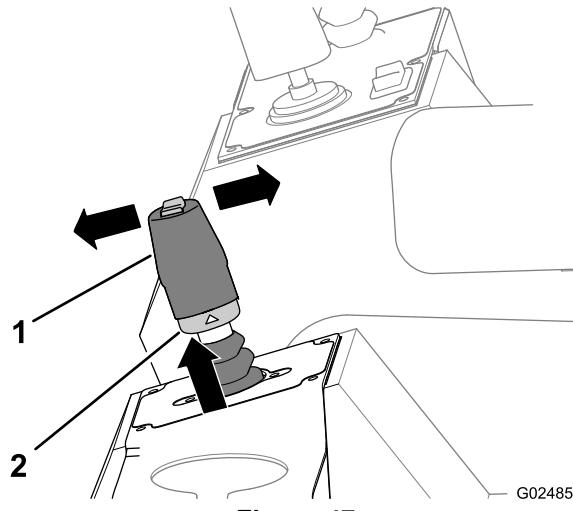

Figure 47
- Lift up on the lock ring that is at the bottom of the joystick handle (Figure 47).
- Move the lever forward (toward the front of the machine) to move the machine forward (Figure 47).
- Move the lever rearward (toward the rear of the machine) to move the machine in reverse (Figure 47).
- Release the lock ring and the lever (Figure 47).
- Return the lever to the Neutral position to stop the machine (Figure 47).